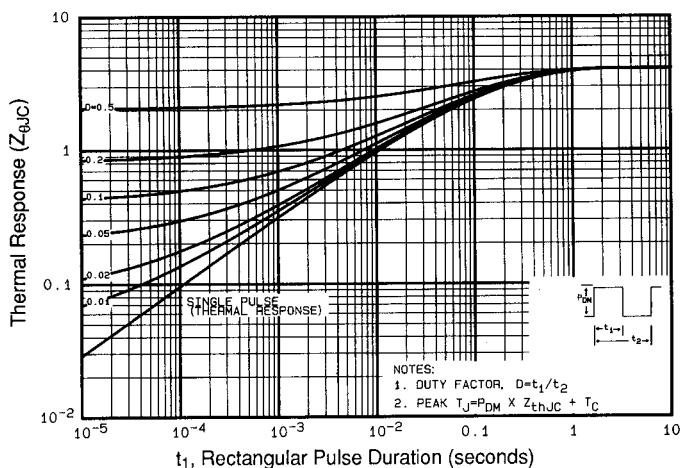

Fig 11. Maximum Effective Transient Thermal Impedance, Junction-to-Case
① Repetitive rating; pulse width limited by max. junction temperature (See Figure 11)
③ $I_{SD}\leq 17\text{A}$, $dI/dt\leq 140\text{A}/\mu\text{s}$, $V_{DD}\leq V_{(\text{BR})\text{DSS}}$, $T_J\leq 175^\circ\text{C}$
⑤ $t=60\text{s}$, $f=60\text{Hz}$
② $V_{DD}=25\text{V}$, starting $T_J=25^\circ\text{C}$, $L=595\mu\text{H}$